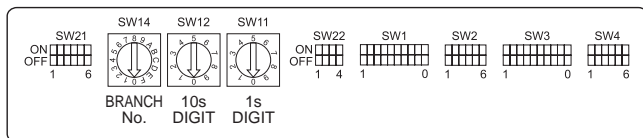

Fig. 5-9
5.5. Setting addresses (Fig. 5-9)
5.6. Sensing room temperature with the built-in sensor in a remote controller (Fig. 5-9)
5.7. Switch setting for high ceiling (Fig. 5-9)
5.8. Switch setting for i-See sensor (Fig. 5-9)
5.9. Switch setting for horizontal airflow direction (Fig. 5-9)